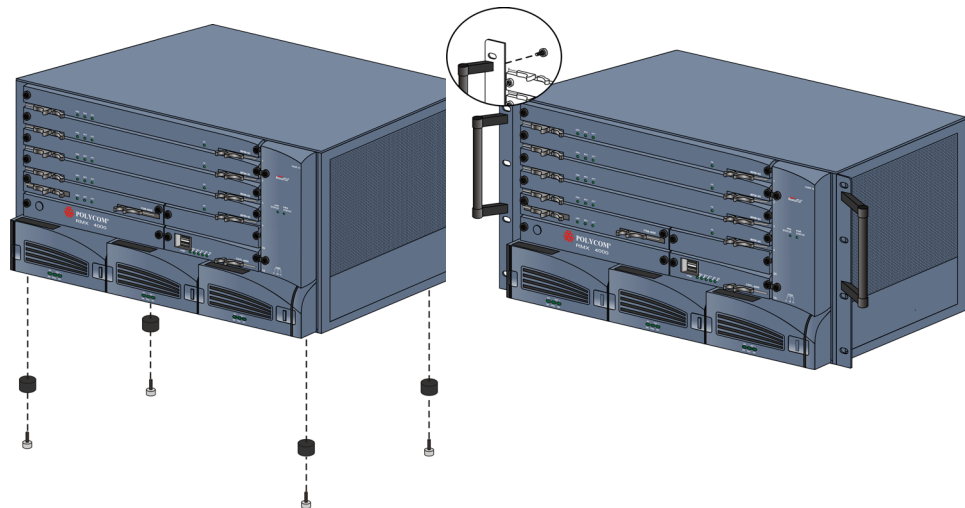

Figure 1-1 Optional - Feet and handle removal
- Optional - Depending on the rack installed in your site, you may need to remove the handles if they are attached to the RMX 4000. Unscrew the handles from the chassis as shown in Figure 1-1, *“Optional - Feet and handle removal”*.
- Optional - If the opening in the rack that is allocated to the RMX 4000 is exactly 6U, the feet must be removed from the RMX 4000 to install it in the rack. Unscrew the feet from the chassis as shown in Figure 1-1, *“Optional - Feet and handle removal”*.